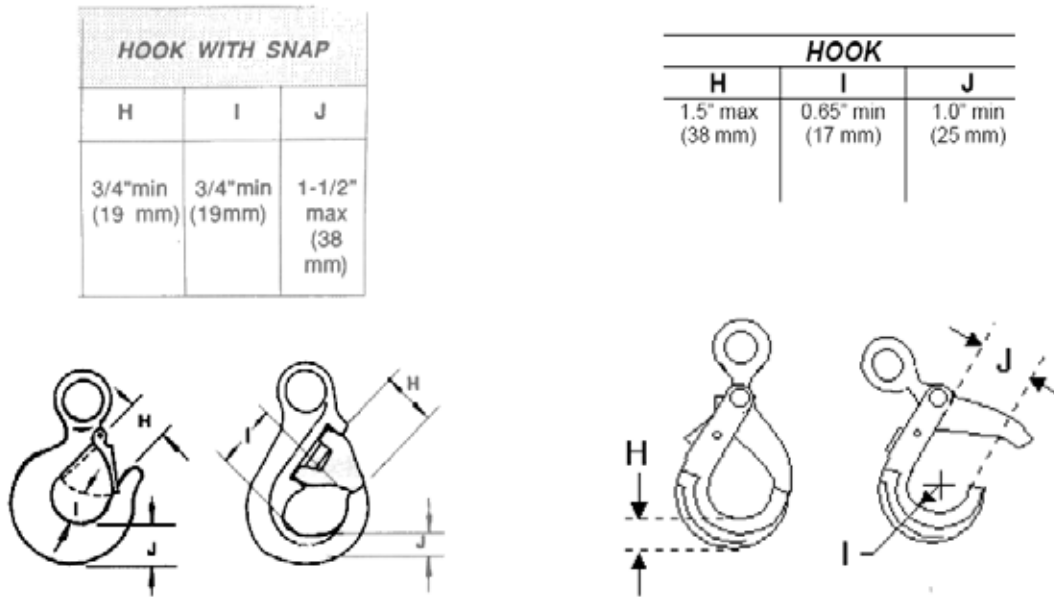

Figure 10. Dimension for Hooks
- a. Inspect hook, Check hook for damage such as cracks, nicks, wear, gouges, and deformation. See Figure 10 and 11. Check operation and ensure that hook is not bent or distorted. If any damage, deformation or wear are is found, then remove from service. See H. Salvage.
- Check Hook Dimensions, See Figure 10.
- Check Hook Dimensions. See Figure 10.